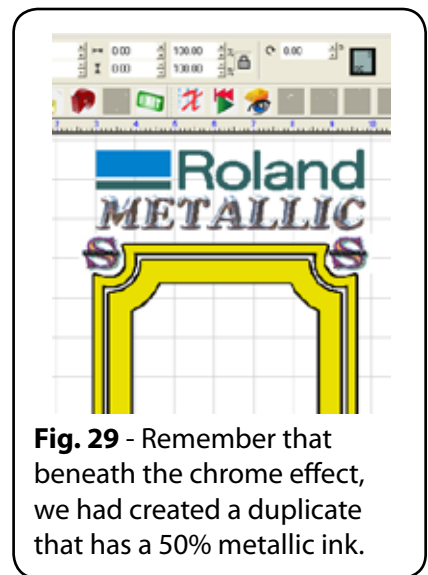

Fig. 29 - Remember that beneath the chrome effect, we had created a duplicate that has a 50% metallic ink.
29. Click **OK** to complete the chrome effect (Fig. 29).